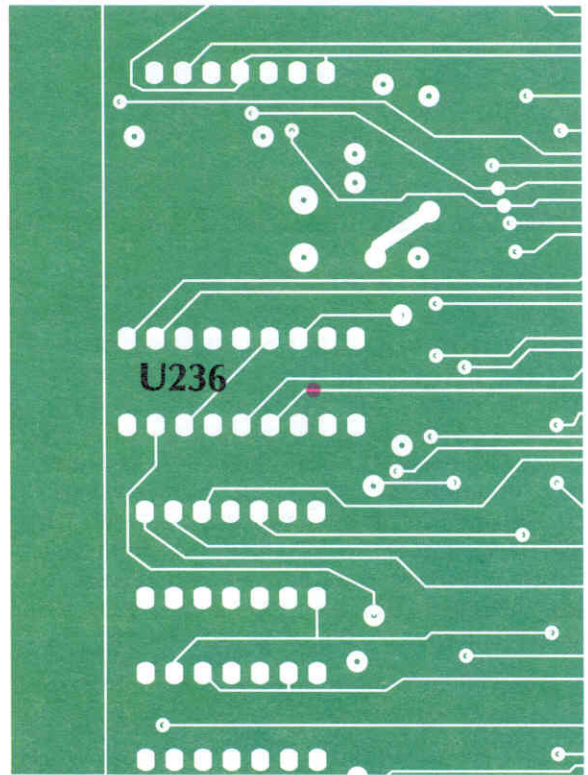

Figure 3. Trace cut at U236 on the foil side of the board.
- (1) Position the board so that the component side is up.
- (2) Prepare the remaining 18-pin socket by bending out pin 3 90 degrees from the other pins. Connect a 4" (10 cm) length of wire to pin 3.
- (3) Prepare the 14-pin socket by bending out pin 6.
- (4) Remove the IC at U220, insert the prepared 14-pin socket in U220, and reinstall the IC in the prepared socket.
- (5) Remove the IC at U236, insert the prepared 18-pin socket in U236, and reinstall the IC in the prepared socket.
- (6) Connect the wire coming from the socket in U236 to pin 6 of the socket in U220. Route the wire close to the board and cut off any excess before making the connection.
- (7) Position the board so that the solder side is up.
- (8) Cut the trace coming from U236 pin 4. See Figure 3.
- (9) Jumper U236 pin 7 to U236 pin 9.
- (10) Jumper U236 pin 4 to U206 pin 13.
- (11) Jumper U206 pin 1 to U220 pin 5.